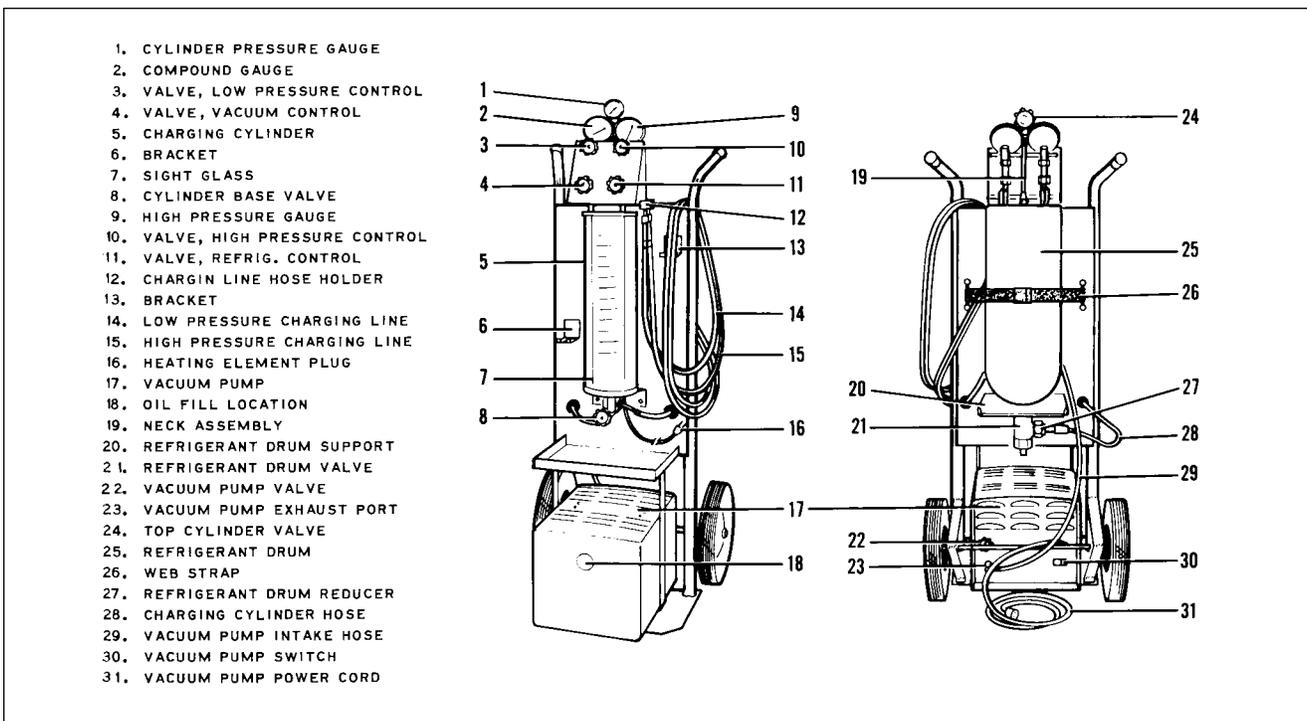

Figure 21-10. Charging Stand
*Applies to Kent Moore J23500 or similar charging station. (Refer to Figure 21-10.)*
*The following instructions apply to Kent Moore, J23500 charging stand. (Refer to Figure 21-10.)*